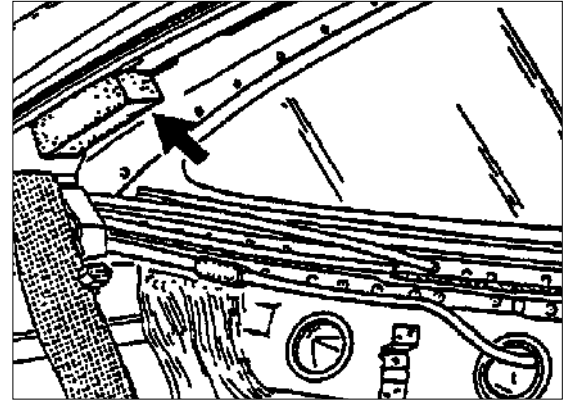

Figure 21
- Glue foam pieces (approx.. 100mm long) to the inside of the roof rail trim panels at the location shown in figure 21.
- a. Behind the rear securing element of the roof rail trim panels. (Figure 21, arrow).